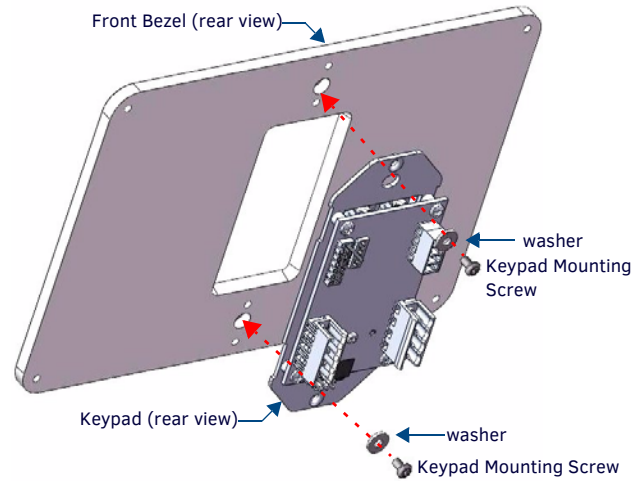

FIG. 3 MOUNTING THE KEYPAD TO THE FRONT BEZEL (MET-TTS1-BL BEZEL SHOWN)
2. Use the included mounting screws and washers to secure each keypad to the Bezel, as shown in FIG. 3: